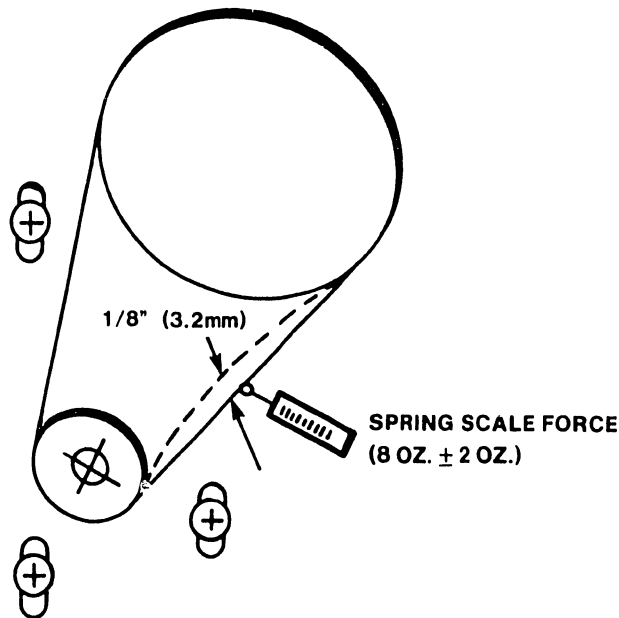

Figure 5-5 Paper Drive Belt Tension
- b. Using a spring gauge and scale, deflect the middle of the belt $1/8''$ (3.2mm). See Figure 5-5. The gauge should read $8 \text{ oz.} \pm 2 \text{ oz.}$ If the measurement is not within specifications, perform the adjustment in Paragraph 5.3.9.
- a. Using a screwdriver, slightly loosen the three motor mounting screws shown in Figure 5-5.
- b. Using a spring gauge, press the center of the drive belt downward using a force of 16 oz. \pm 2 oz. See Figure 5-5.